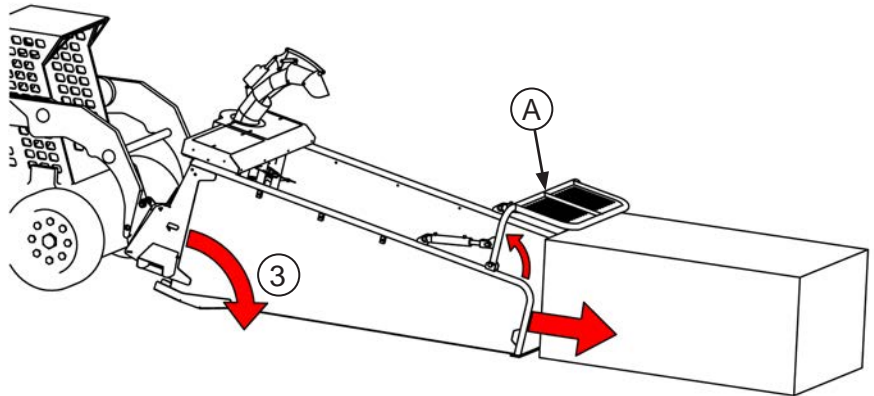

Fig.14
4. When bale is loaded roll attachment back enough to slide the bale in enough to close the gate, see Fig.14.